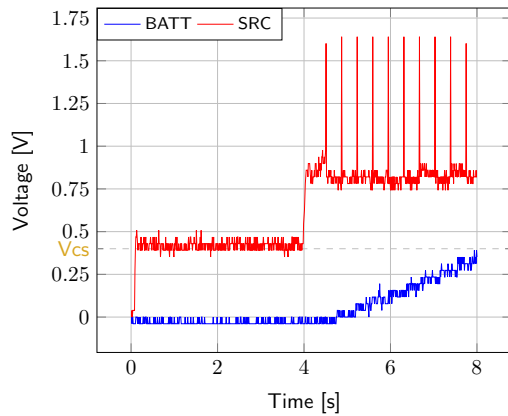

Figure 6: AEM30940 behaviour during cold start
- **SRC**: Equal to the cold-start voltage during the cold-start phase. Regulated at the selected MPPT percentage of  $V_{oc}$  when cold start is over (see Figure 6). Be careful that the cold-start phase time will shorten with the input power. Limit it to ease the observation.
- **BATT**: Starts to charge when the cold-start phase is over (see Figure 6).